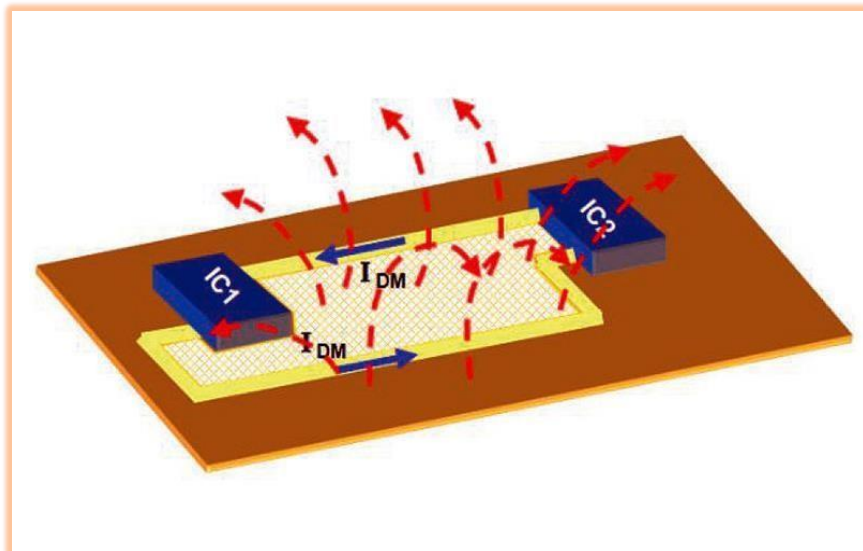

Figure 1: Differential mode radiation
- Differential mode radiation is caused by transmission line loops, and the signals creating differential currents (see Figure 1). Countermeasures include using shielded layers (Vcc or Ground), placing critical signals on inner layers (also known as striplining), avoiding long parallel runs for signals and, as mentioned above, minimising the loop area and keeping signal rise and fall times as slow as possible.